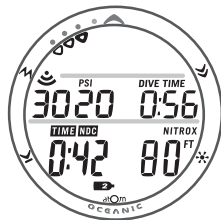

Fig. 110 - NORM MAIN after Switch from GAS1 to GAS2
- When the switch is made, the NORM MAIN DIVE Display (Fig. 110) will represent GAS 2 and display the Pressure of Tank 2 (if active). Air Time Remaining is then calculated based on TMT 2.